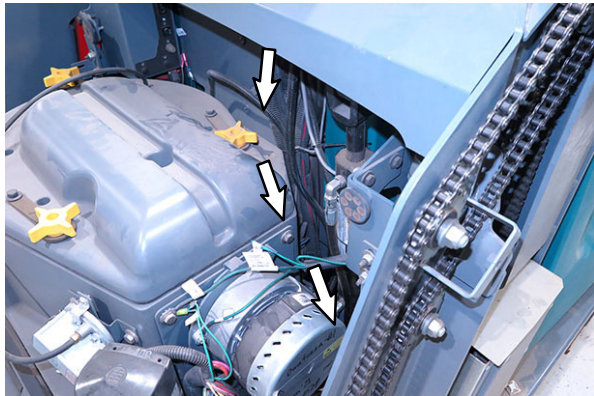

FIG. 16
11. Route the blue spotlight harness (11) down along the main wire harness, under the front shroud, and into the operator compartment. (Fig. 16)